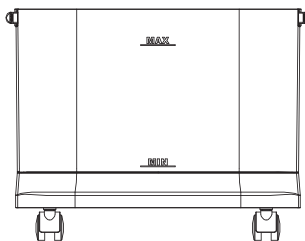

Figure 5
**Note:** When adding water, DO NOT exceed the MAX level display on the front of the Air Cooler (Figure 5).